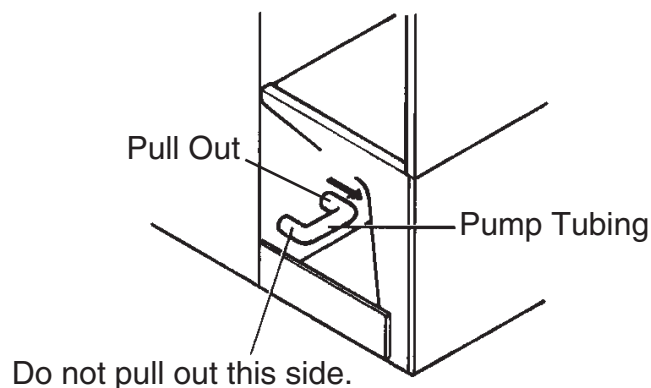

Fig. 1
- 3) Remove the base cover. Remove the pump tubing from the tank. See Fig. 1. Allow the water to drain from the tank. Replace the pump tubing and base cover in their correct positions.
- 2) Remove the front panel and move the control switch to the "OFF" position. Remove the base cover. Remove one end of the pump tubing. See Fig. 1. Allow the water to drain from the tank. Replace the pump tubing and base cover in their correct positions.